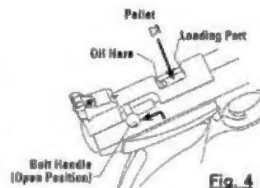
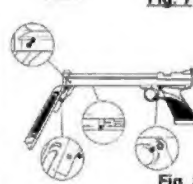

Fig. 4
Fig. 8
- Push bolt handle up and pull all the way back until you hear two clicks. (Fig. 4)
- With the bolt in the rearward position, place one pellet, nose first, into the loading port (breech). (Fig. 4) This is a single shot pellet airgun. Load no more than one pellet at a time.
- Your airgun will work best if you oil it every 250 shots. Put 2 or 3 drops of Crosman 0241 Lubricating Oil on the pump pivot pins, the trigger, the pump cup in the pump mechanism (Fig. 8) and the o-ring on the bolt. (See Fig. 4) A little oil on the outside of the barrel helps prevent rust. Crosman 0241 Lubricating Oil is best, but any light household oil is better than none. DO NOT over-oil as this can cause damage to your airgun.